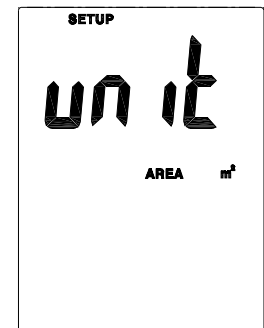
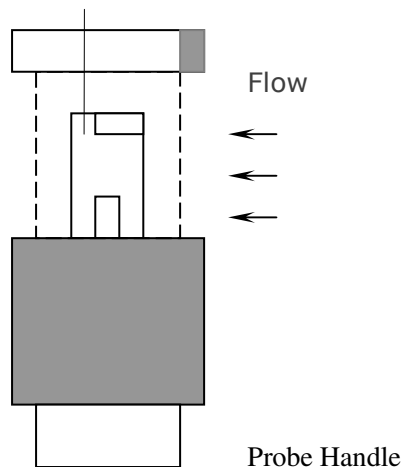

Fig.2
Fig.4
1. When the thermometer is in Setup mode, press  or  to scroll to the area unit setup option (refer Fig.2).
5. Slide the sensor cover to the down position, let the air velocity sensor to contact the air, refer Fig.2. Extent the telescope probe to the convenient length, refer Fig.4.
measurement, then this mark should against the measured wind, refer Fig. 4, Fig5. When sensor head face against the measurement air, then the upper display will show the air velocity value. The lower display will show the temperature value.